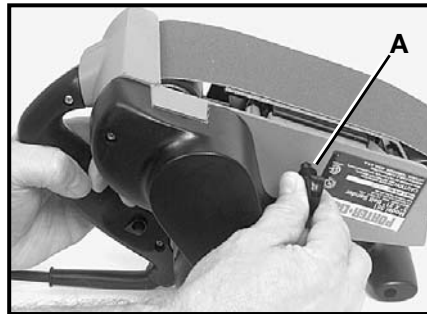

Fig. 3
- Turn the tool over. Hold the rear handle with the left hand so that the ring finger and the little finger rest on trigger (Fig. 3).
- Turn the belt aligning screw (A) in either direction until the edge of the belt is even with the outer edge of the rear rubber-covered pulley. The edge of the belt will extend beyond the edge of the front pulley.